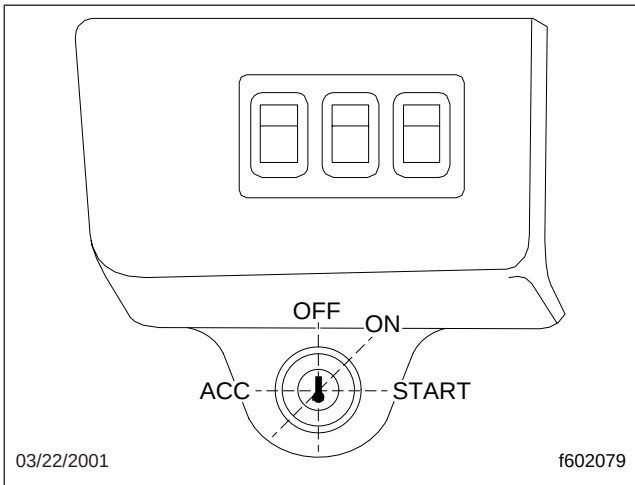

Fig. 7.6, Ignition Switch Positions
1. Turn the ignition switch to the on position. See Fig. 7.6. All the electronic gauges on the ICU (instrumentation control unit) complete a full sweep of their dials, the warning and indicator lights light up, and the buzzer sounds for 3 seconds.
1. Turn the ignition switch to the on position. See Fig. 7.6. All the electronic gauges on the ICU (instrumentation control unit) complete a full sweep of their dials, the warning and indicator lights light up, and the buzzer sounds for three seconds.
Turn the ignition switch to the on position. See Fig. 7.6.
The intake air preheater is activated by turning the ignition switch to the on position. See Fig. 7.6. If the engine is at normal temperature, the INTAKE HEATER indicator goes out after two seconds.